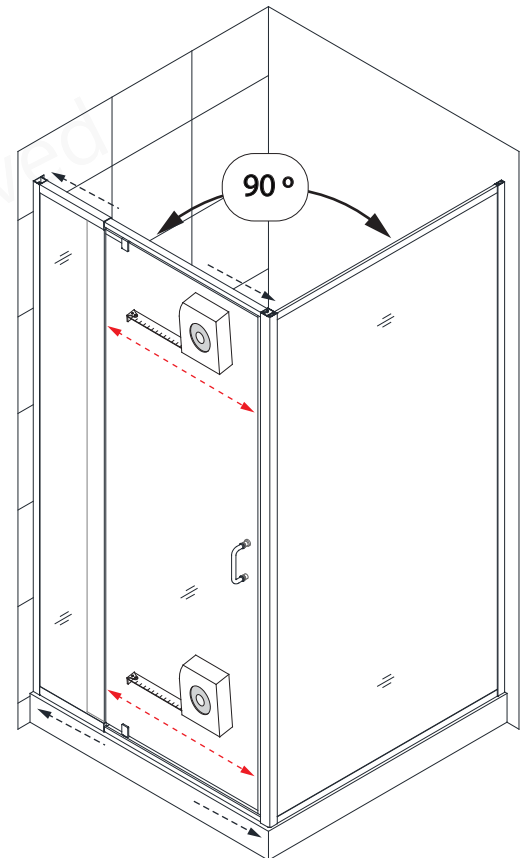

Fig 8
8. Make sure the **Door assembly (#02)** is fully extended into the **Wall profile (#01)** and the **Corner Profile (#10)**. Adjust top and bottom **Expanding rails** to the same length, making the door area square. Use a tape measure for accuracy. Make sure that the top and bottom decorative rail covers are tight after adjusting the expanding rails. (**Fig 8**)